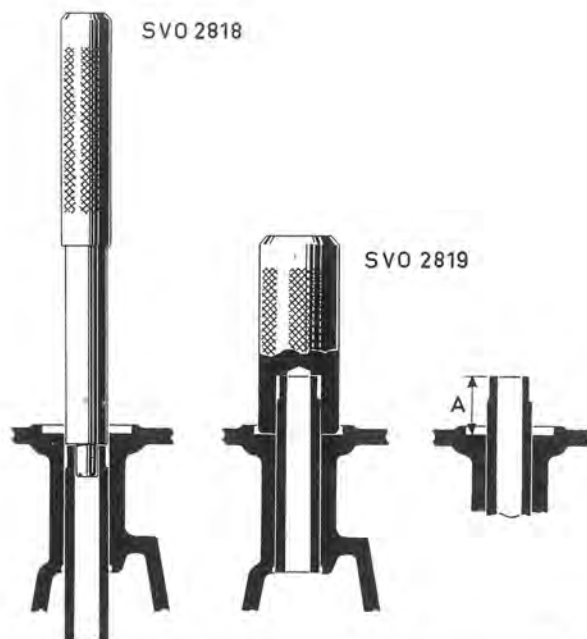

Fig. 2-27. Replacing valve guides
2. Press in the new guides using drift 2819, which gives the correct pressing-in depth. See Fig. 2-27.